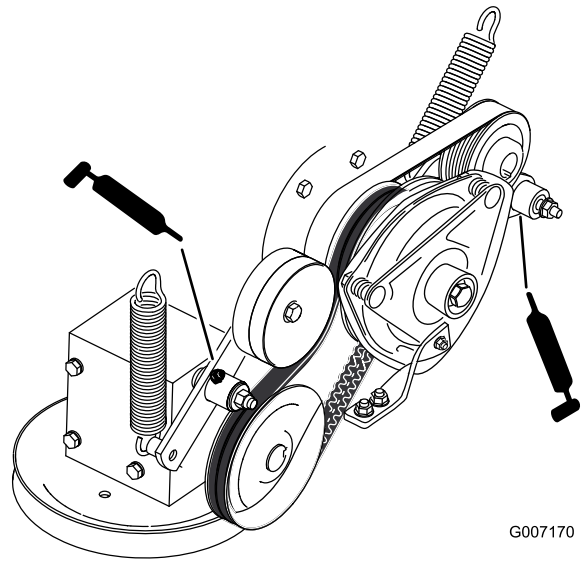

Figure 36
5. Grease the PTO drive belt idler arm (Figure 36).
6. Grease the pump belt idler arm (Figure 36).